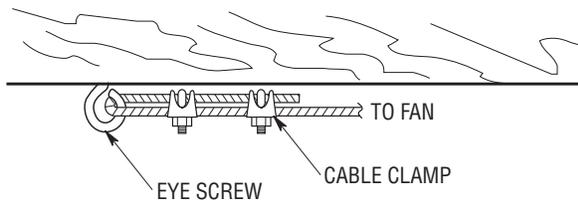

Figure 10
- 16. Pass the end of the safety cable through the two cable clamps (supplied) (Figure 10). Pass the end of the safety cable through the eye screw and then back through the two cable clamps.
**CAUTION:** It is important to note the proper installation position of the cable clamps as illustrated in Figure 10. **TO** obtain maximum holding power, install U-bolt section of clip on dead or short end of cable and saddle on long end of cable. Improper installation reduces the efficiency of the connection by as much as 40 percent.